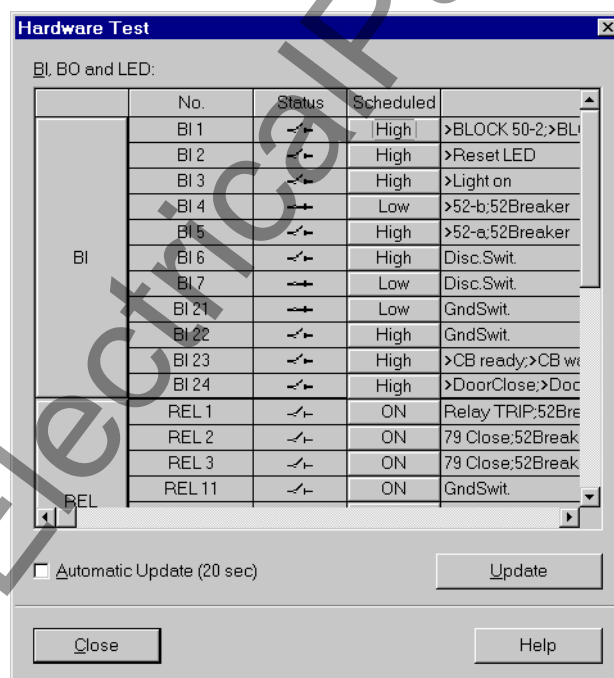

Figure 8-26 Dialogue box for hardware test — example
- ☐ Double-click in the list view on **Hardware Test**. The dialogue box of the same name opens (see Figure 8-26).